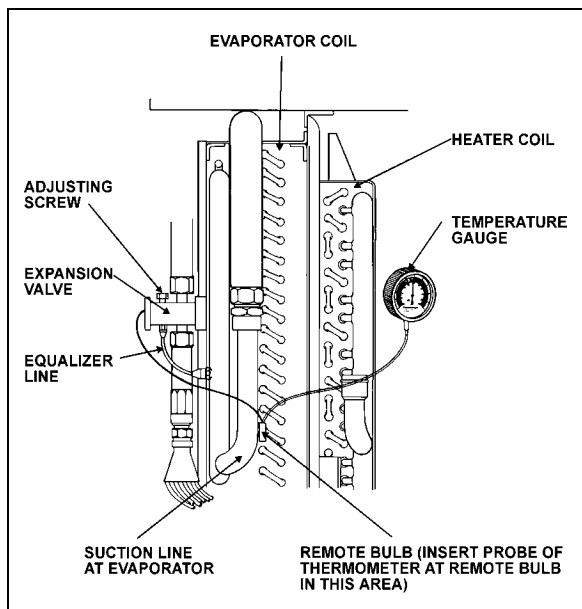

FIGURE 29: SUPERHEAT ADJUST. INSTALLATION 22046
The easiest method of adjusting the superheat is to unscrew completely the main evaporator expansion valve adjusting screw, and screw in 13 turns clockwise for 134A (Figure 29). If this method does not provide an accurate superheat, the following procedure should be followed:
3. Install a remote reading thermometer to the evaporator outlet line near the existing remote bulb (Figure 29).